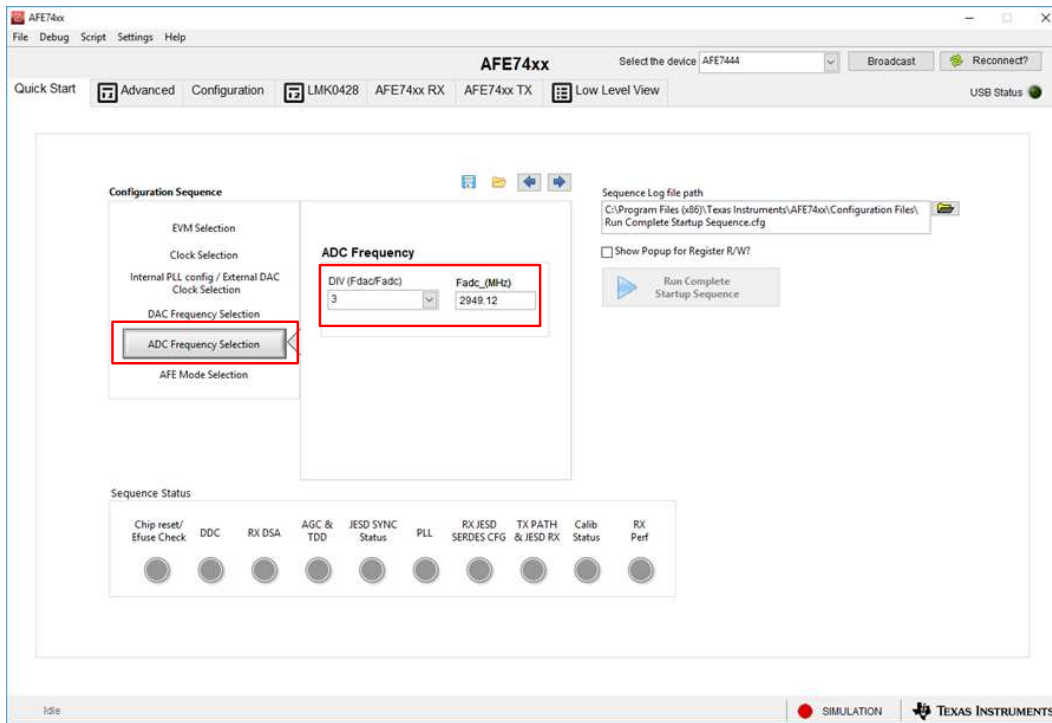

Figure 5. ADC Frequency Selection
- Click the *ADC Frequency Selection* button, and choose a DIV factor of 3 to program the ADC clock to 2949.12 MHz, as shown in Figure 5.